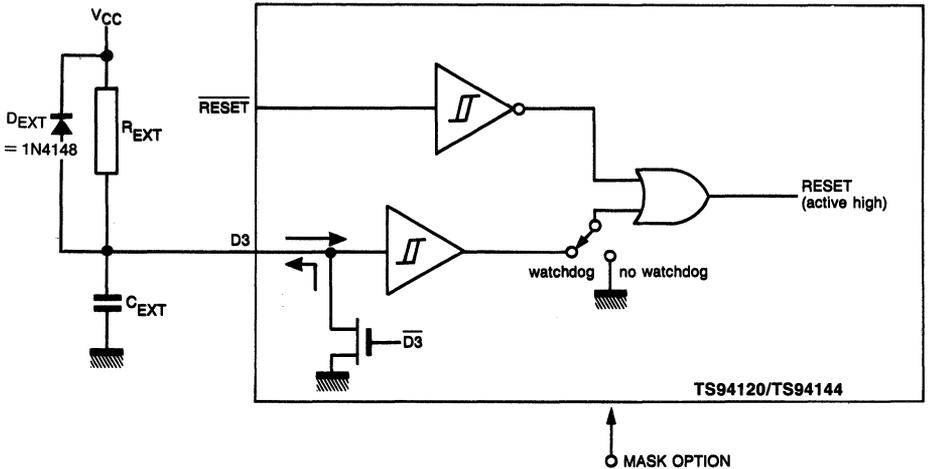

FIGURE 7: D3 AS WATCHDOG INPUT
**WATCHDOG (Figure 7)**
In the watchdog mode, a « 1 » on pin D3 activates the internal reset (see Figure 7). The user needs only to connect a pull-up resistor and a capacitor on D3, and insert a watchdog loop in his program. This software loop will periodically outputs a « 0 » on D3 when the program is normally executed. When the microcontroller is trapped in